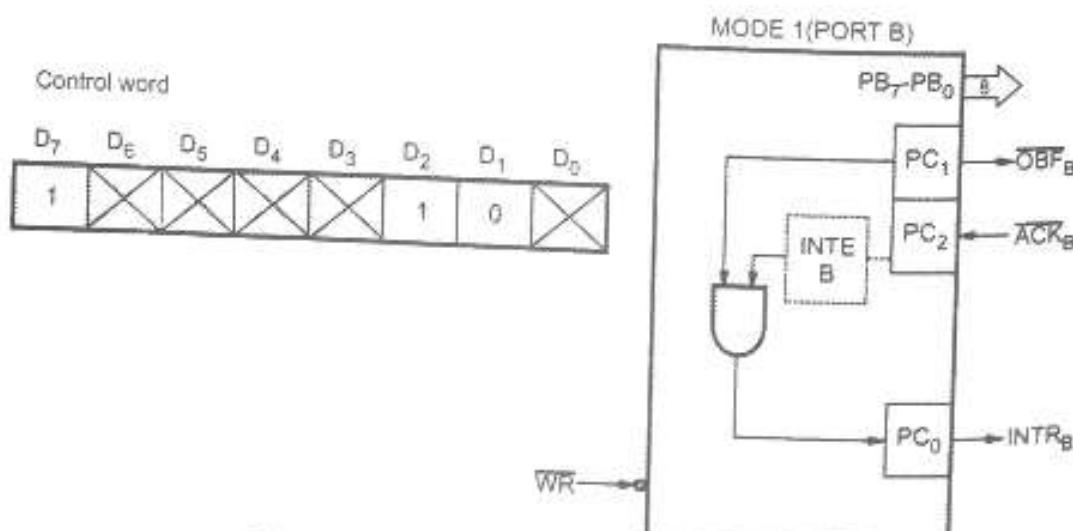

Fig. 3.4.12 Port B in mode 1 (Output)
- INTR_A is an active high output of the 8255 which is made high (if the associated INTE_A flip-flop is set) when \overline{ACK}_A is made high again by the peripheral, and when OBF_A goes high again (see timing diagram in Fig. 3.4.12 (b)). It can be used to interrupt the CPU whenever the output buffer is empty. It is reset by the falling edge of WR when the CPU writes data onto Port A. It can be enabled or disabled by writing a '1' or a '0' respectively to PC₆ in the BSR mode.
- Fig. 3.4.12 shows Port B as an output port when in Mode 1. The operation of Port B is similar to that of Port A.